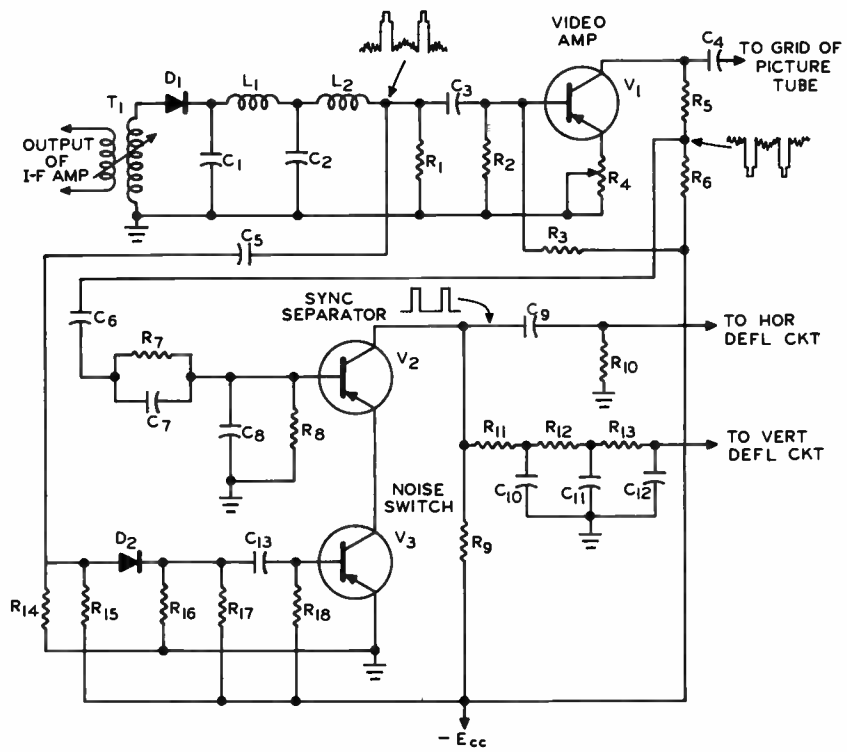

FIGURE 5
5. In the circuit of Figure 5, V_3 is cut off only when a occurs.
5. In the circuit of Figure 5, V_3 is cut off only when a **noise pulse** occurs.
In the circuit of Figure 5, the V_3 stage conducts only (A) during high amplitude noise pulses. (B) when no high amplitude noise pulses are present. (C) during the vertical sync pulses. (D) during the horizontal sync pulses.
In the circuit of Figure 5, the V_2 sync separator stage and the V_3 noise switch (A) both function as sync separators. (B) are effectively connected in parallel. (C) are effectively connected in series. (D) conduct at different times.